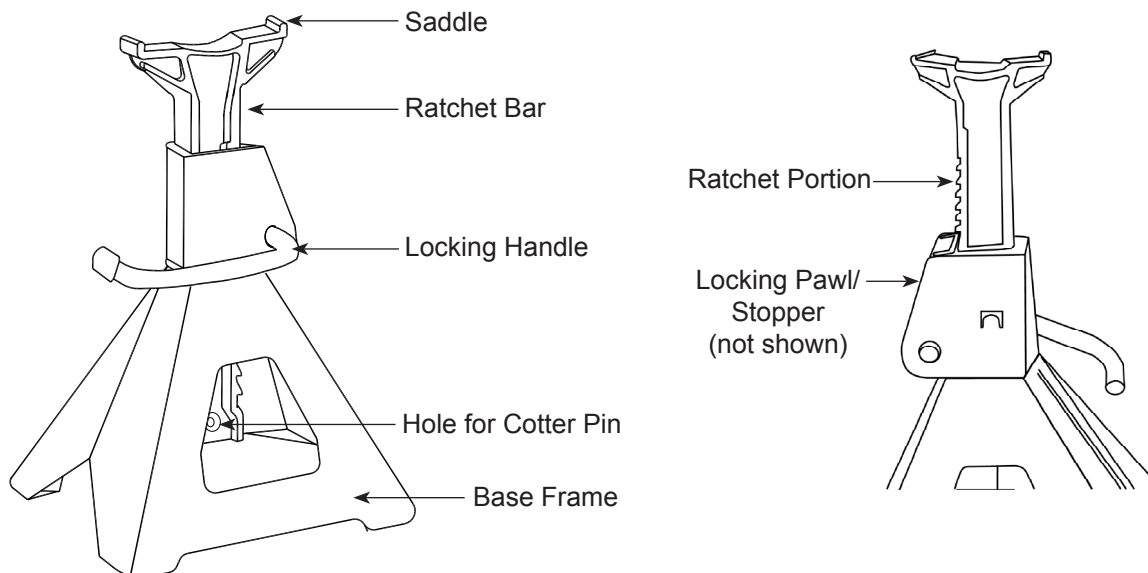

Figure 1. Jack Stand Components
(refer to Figure 1 for location of components)
1. Verify that the product and the application are compatible, if in doubt call Hein-Werner Tech. Service (816)891-6390.
6. Insert cotter pin into the bottom hole of the ratchet bar to prevent inadvertent loss of the ratchet bar (refer to Figure 1).